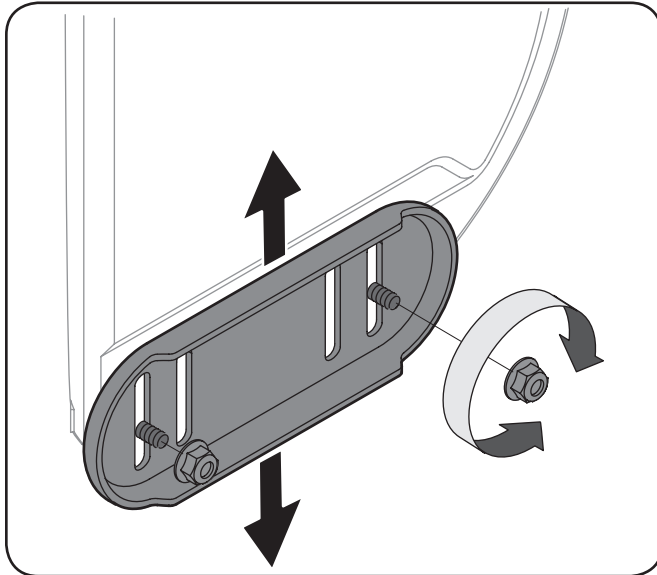

Figure 3-20
1. Loosen the four hex nuts (two on each side) and carriage bolts. Move skid shoes to desired position. See Figure 3-20.